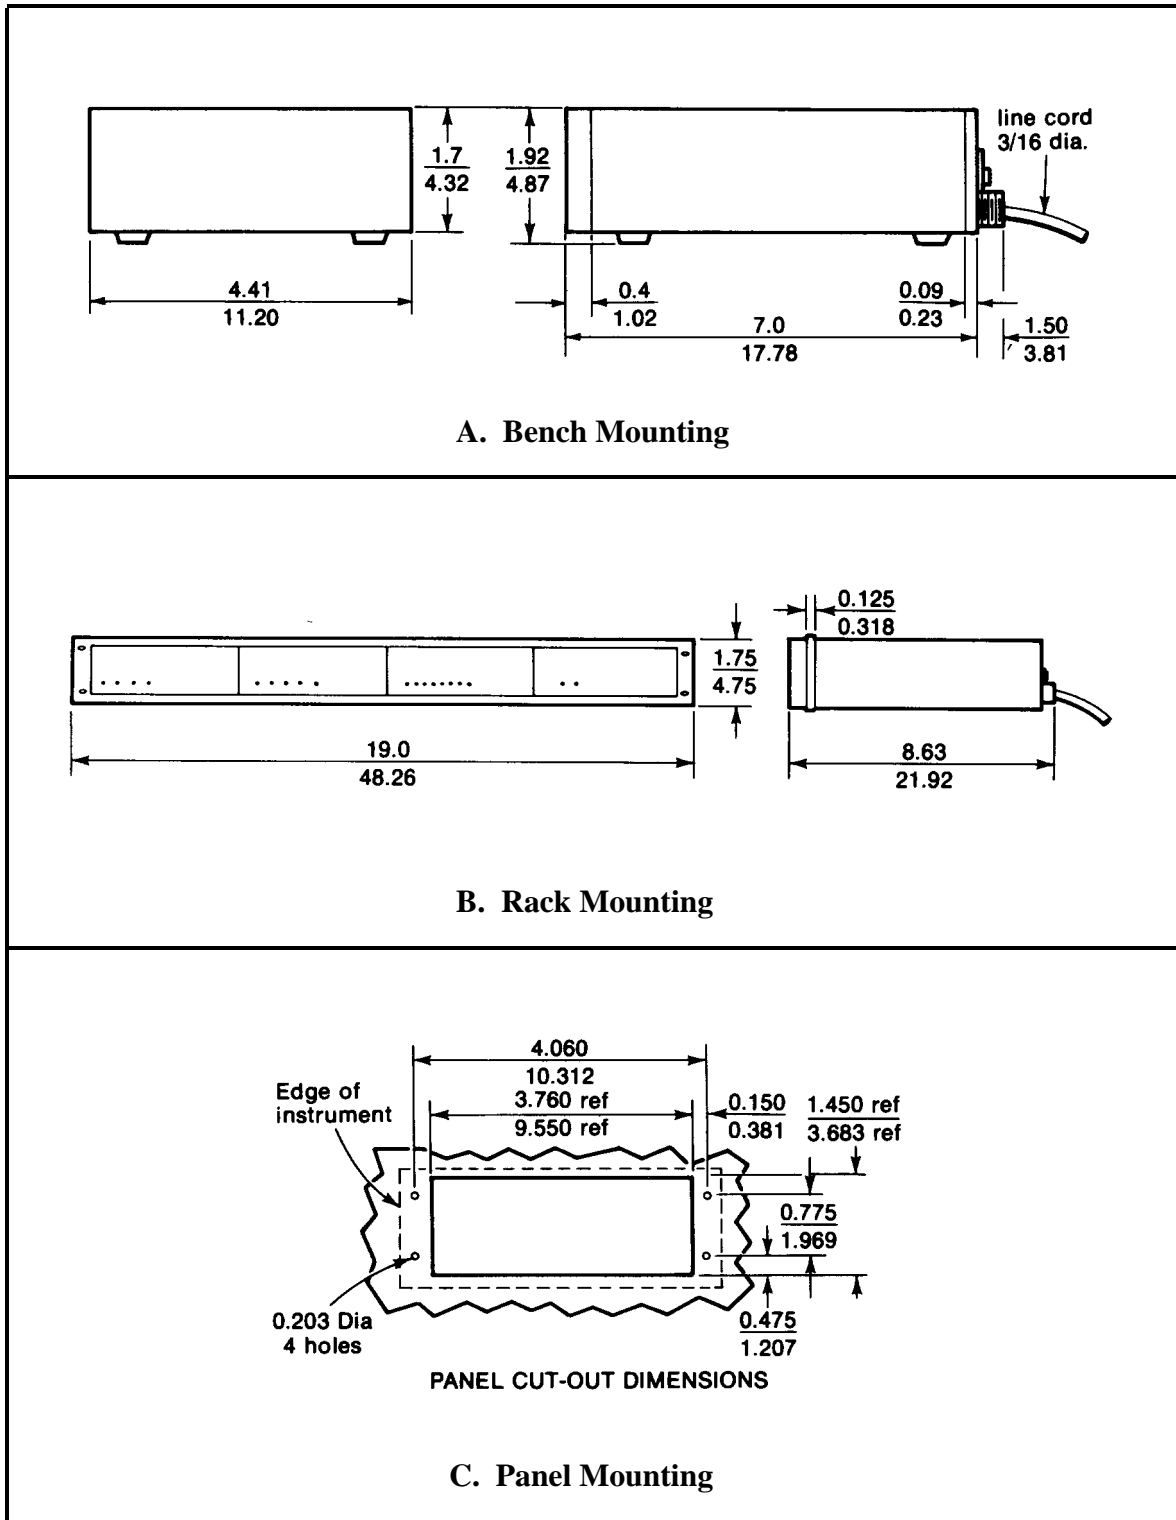
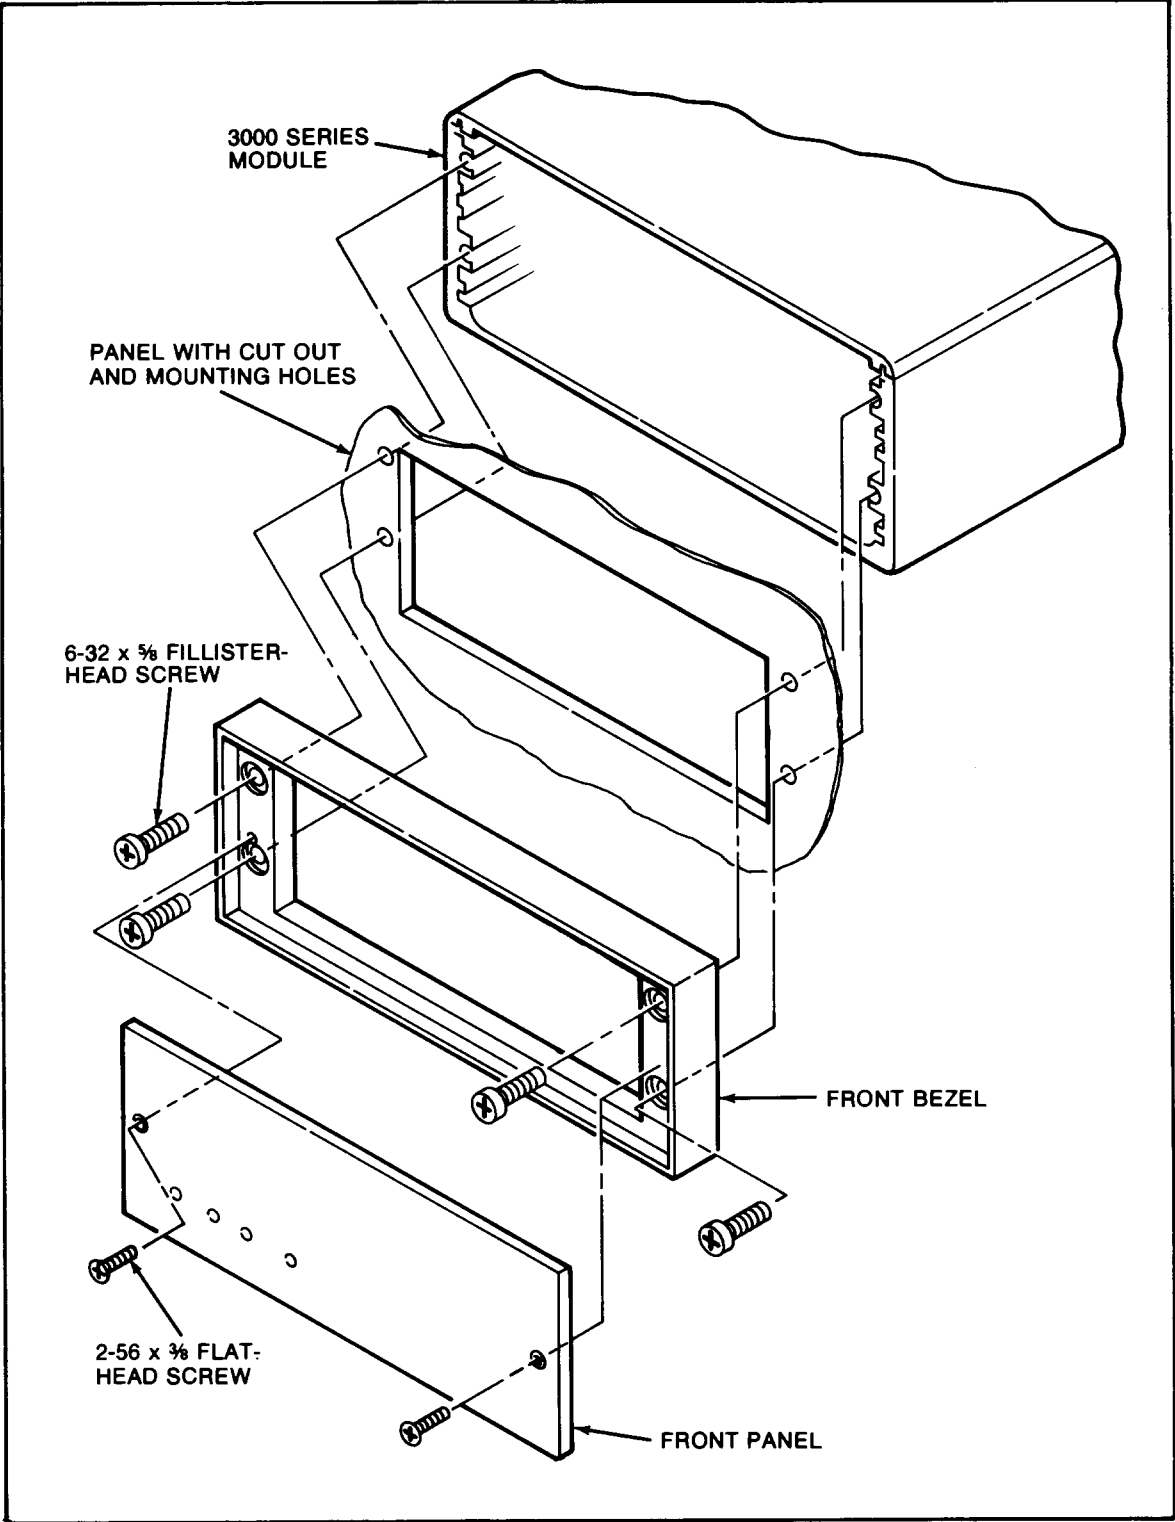

Figure 3. Instrument Mounting Dimensions
Figure 4. Instrument Panel Mounting
MOUNTING. The *3000 Series* Instruments can be operated as bench-top units or they can be rack- or panel-mounted. Clearance dimensions for a bench-mounted instrument are given in Figure 3. Panel cut-out dimensions for panel mounting are also shown in Figure 3. From one to four 3000 Series Instruments can be mounted in a 19-inch rack using the 1 3/4 inch high Model 3004 Rack Adaptor. Rack-mounting dimensions are also given in Figure 3. To panel mount an instrument, proceed as follows. Refer to Figure 4.
- (c) Make the panel cutout and drill the screw clearance holes indicated in Figure 3. The front bezel can be used as a template to define the rectangular cutout and locate the clearance holes.